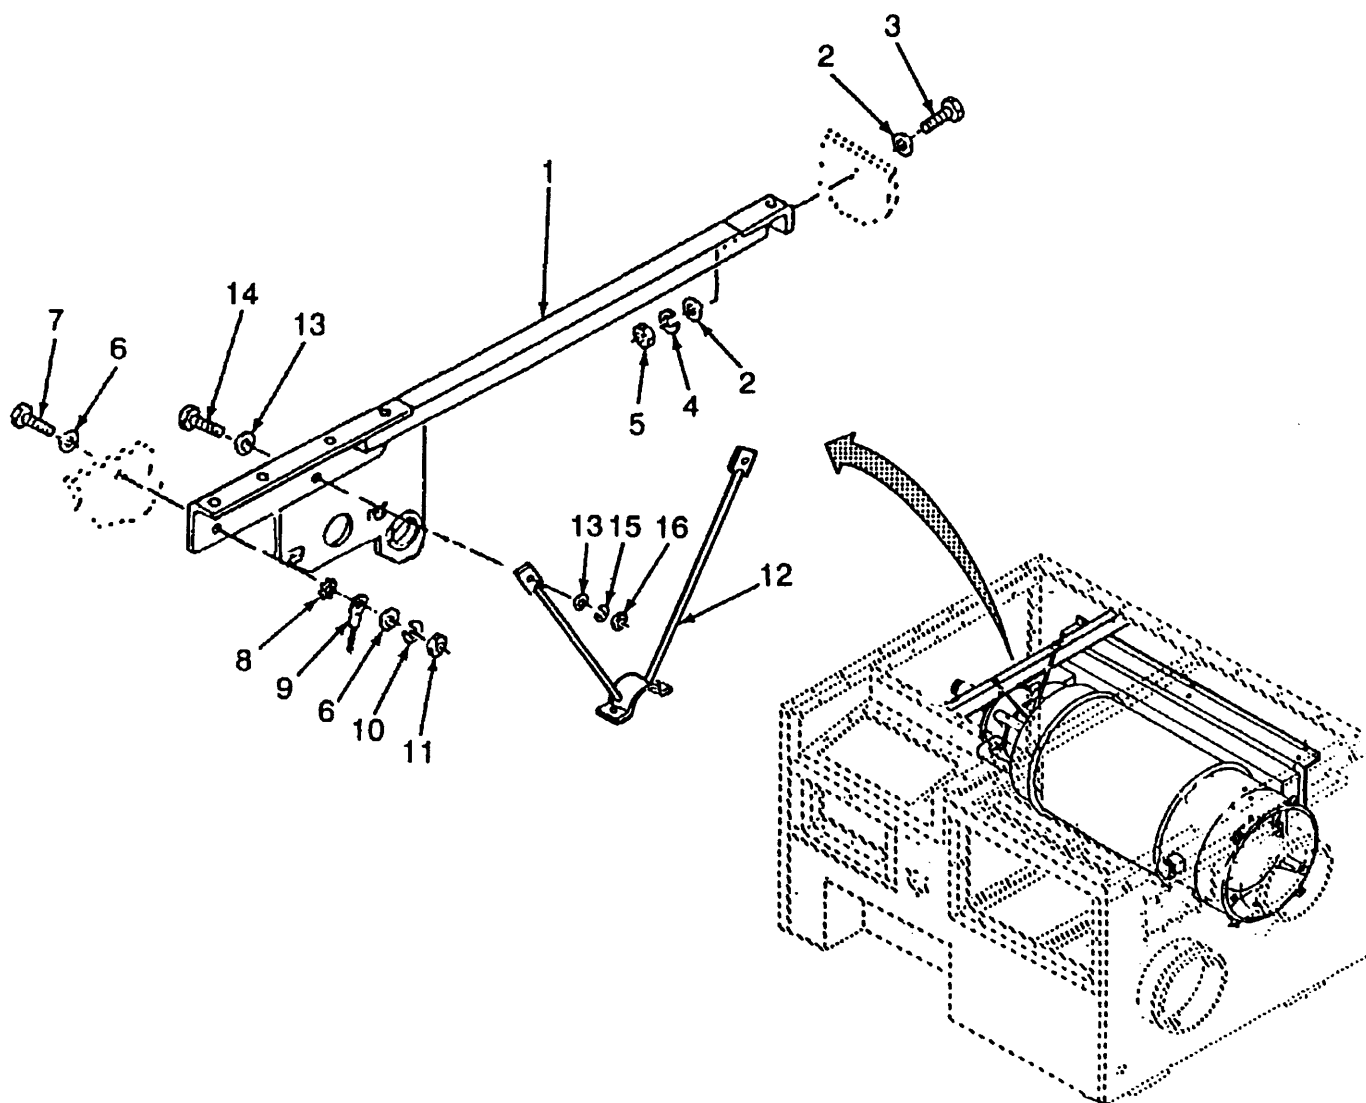

Figure 5-19. Heat Exchanger, (Model H120) Installation
f. Installation - continued (Refer to Figure 5-19)
(3) Install brace (1) as follows: